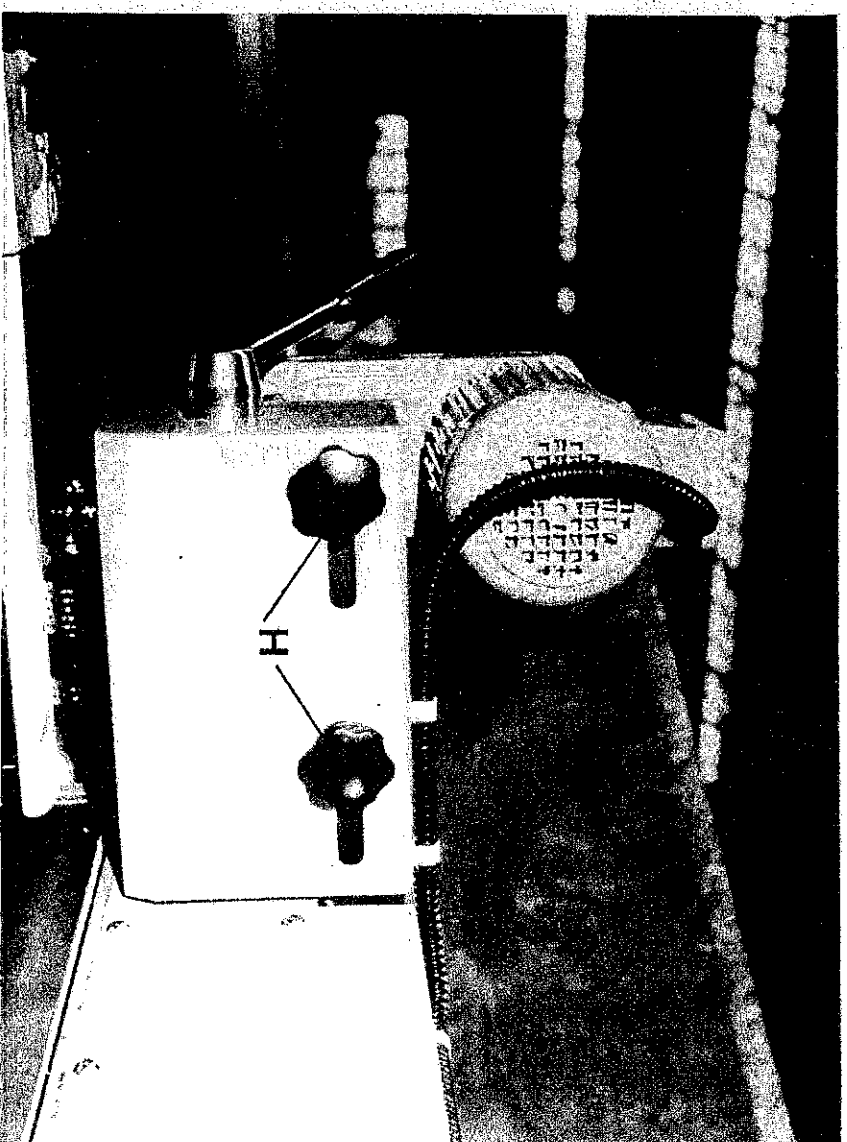

FIG. 33
- b) Remove locking handwheels "H" and washers FIG.33 in planer feed unit.